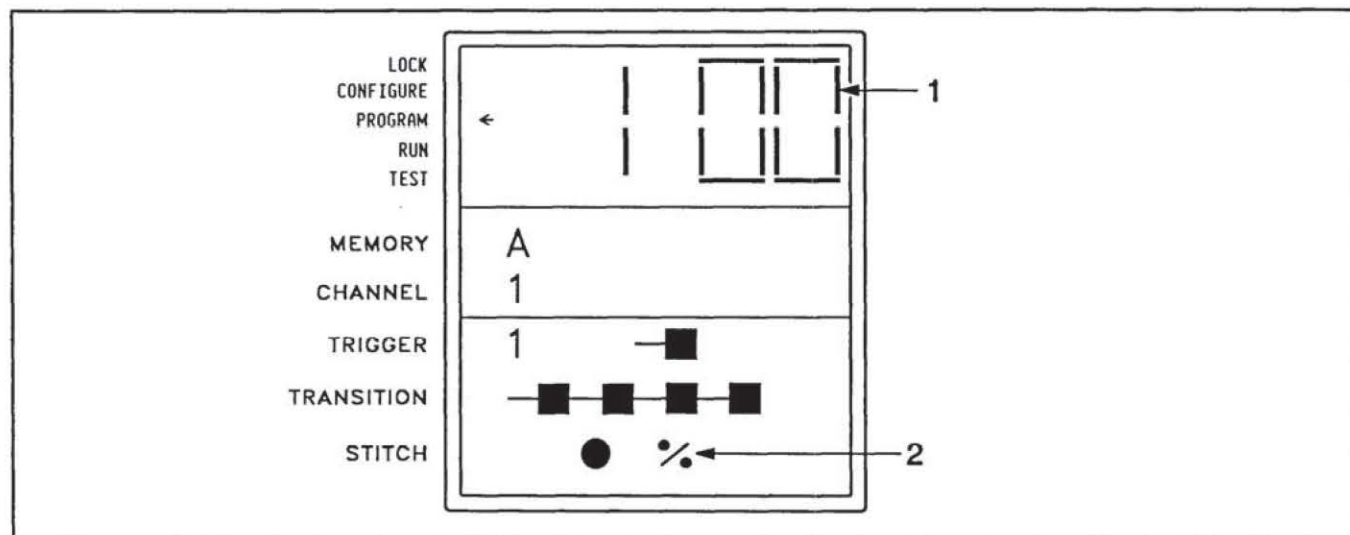

Figure 4.16 - Program mode, stitch percentage display
2. Press SET.	<ul style="list-style-type: none"> <li>The stitch on symbol is displayed constantly (not flashing).</li> <li>The stitch percentage symbol is flashing.</li> <li>The right-most digit of the current stitch % value is flashing in the numerical display area (Figure 4.16).</li> </ul>